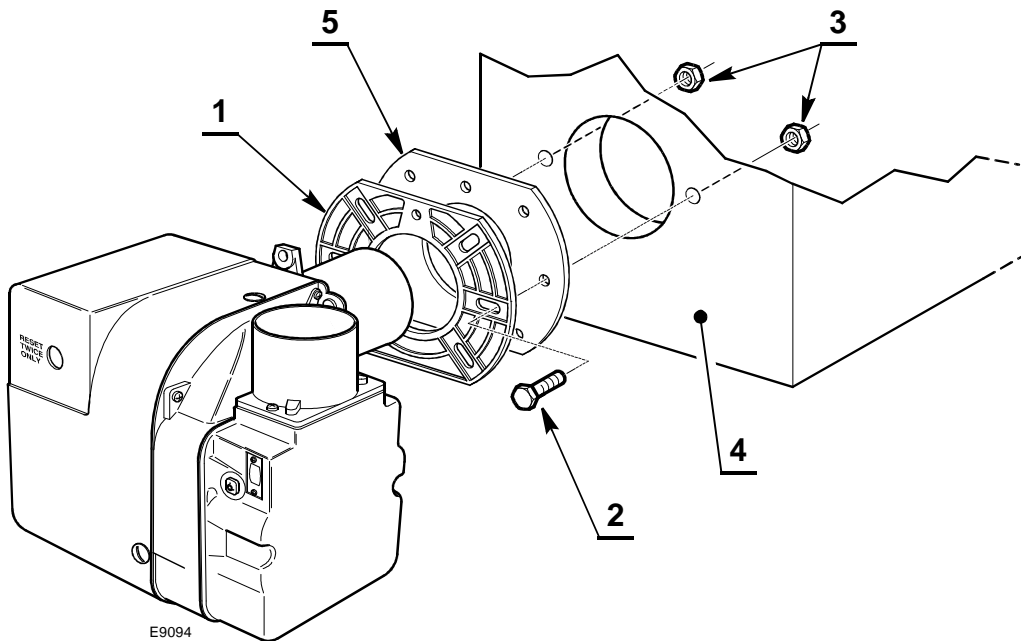

Fig. 7
- Fix the flange 1) to the appliance (4) using the supplied bolts 2) and nuts 3) with the gasket 5) inbetween as in Fig. 7.